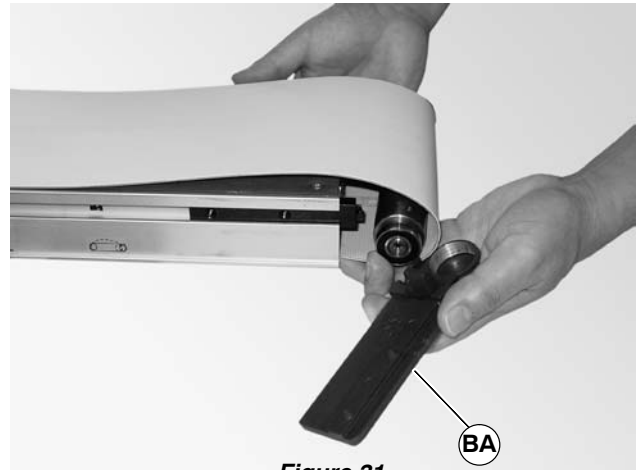

Figure 31
2. Remove the head plate (BA of Figure 31) from the conveyor frame.